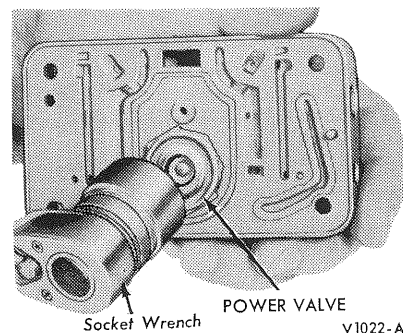

FIG. 56 Removing or Installing Power Valve
2. Using a socket wrench, remove the power valve and gasket (Figure 56). Discard the gasket. Using a jet wrench, remove the main jets (Figure 57).